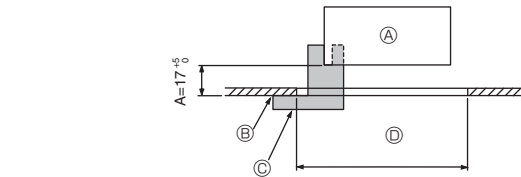
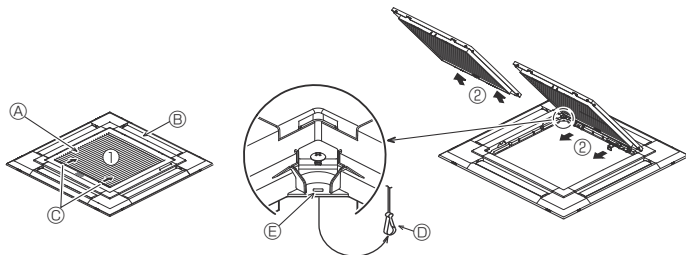
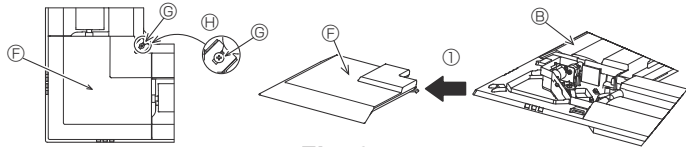

Fig. 6-2
Fig. 6-3
Fig. 6-4
①	Grille	1	950 × 950 (mm)
②	Installation gauge	1	(Divided into 4 parts)
③	Screw (4 × 16)	1	For PLP-6EAE, PLP-6EALME, PLP-6EAJE
④	i-see Sensor corner panel	1	For PLP-6EAE, PLP-6EALME, PLP-6EAJE
⑤	Wireless remote controller	1	For PLP-6EALM, PLP-6EALME
⑥	Remote controller holder	1	Included when equipped with the wireless remote controller.
⑦	LR6 AA batteries	2	Included when equipped with the wireless remote controller.
⑧	3.5 × 16 tapping screws	2	Included when equipped with the wireless remote controller.
6.2. Preparing to attach the grille (Fig. 6-2)
- With the gauge ② supplied with this kit, adjust and check the positioning of the main unit relative to the ceiling surface. If the main unit is not properly positioned relative to the ceiling surface, it may allow air leaks or cause condensation to collect.
- C Installation gauge ② (inserted into the main unit)
6.2.1. Removing the intake grille (Fig. 6-3)
- Slide the levers in the direction indicated by the arrows ① to open the intake grille.
- With the intake grille in the "open" position, remove the hinge of the intake grille from the grille as indicated by the arrows ②.
6.2.2. Removing the corner panel (Fig. 6-4)
- Loose the 4 screws on the corner. Slide the corner panel in the direction of the arrow ① in the figure and remove the corner panel.
- [Fig. 6-3] [Fig. 6-4]
- B Grille ①